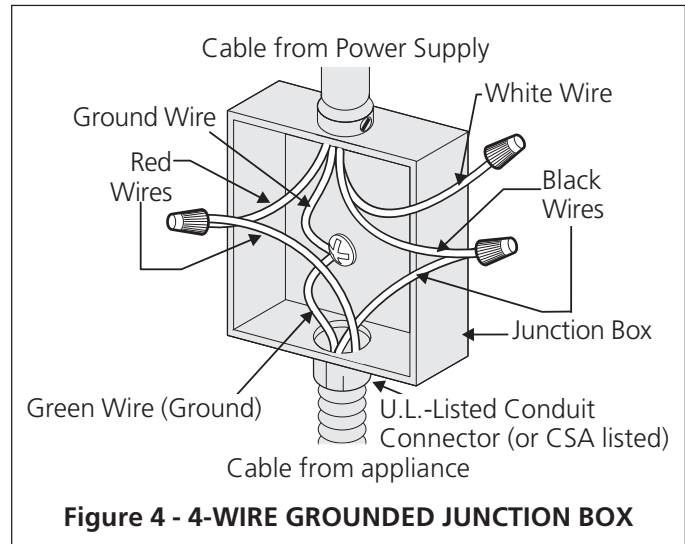

Figure 4 - 4-WIRE GROUNDED JUNCTION BOX
⚠ WARNING You may not ground the cooktop through the neutral (white) wire if cooktop is used in a new branch circuit installation (1996 NEC), mobile home, recreational vehicle, or where local codes do not permit grounding to the neutral (white) wire. When grounding to the neutral (white) wire is prohibited, you must use a 4-wire power supply cable. See Figure 4. Failure to heed this warning may result in electrocution or other serious personal injury.
If cooktop is used in a new branch circuit installation (1996 NEC), mobile home, recreational vehicle, or where local codes DO NOT permit grounding to the neutral (white) wire (see figure 4):
2. In the circuit breaker, fuse box or junction box, connect appliance and power supply cable wires as shown in figure 4.